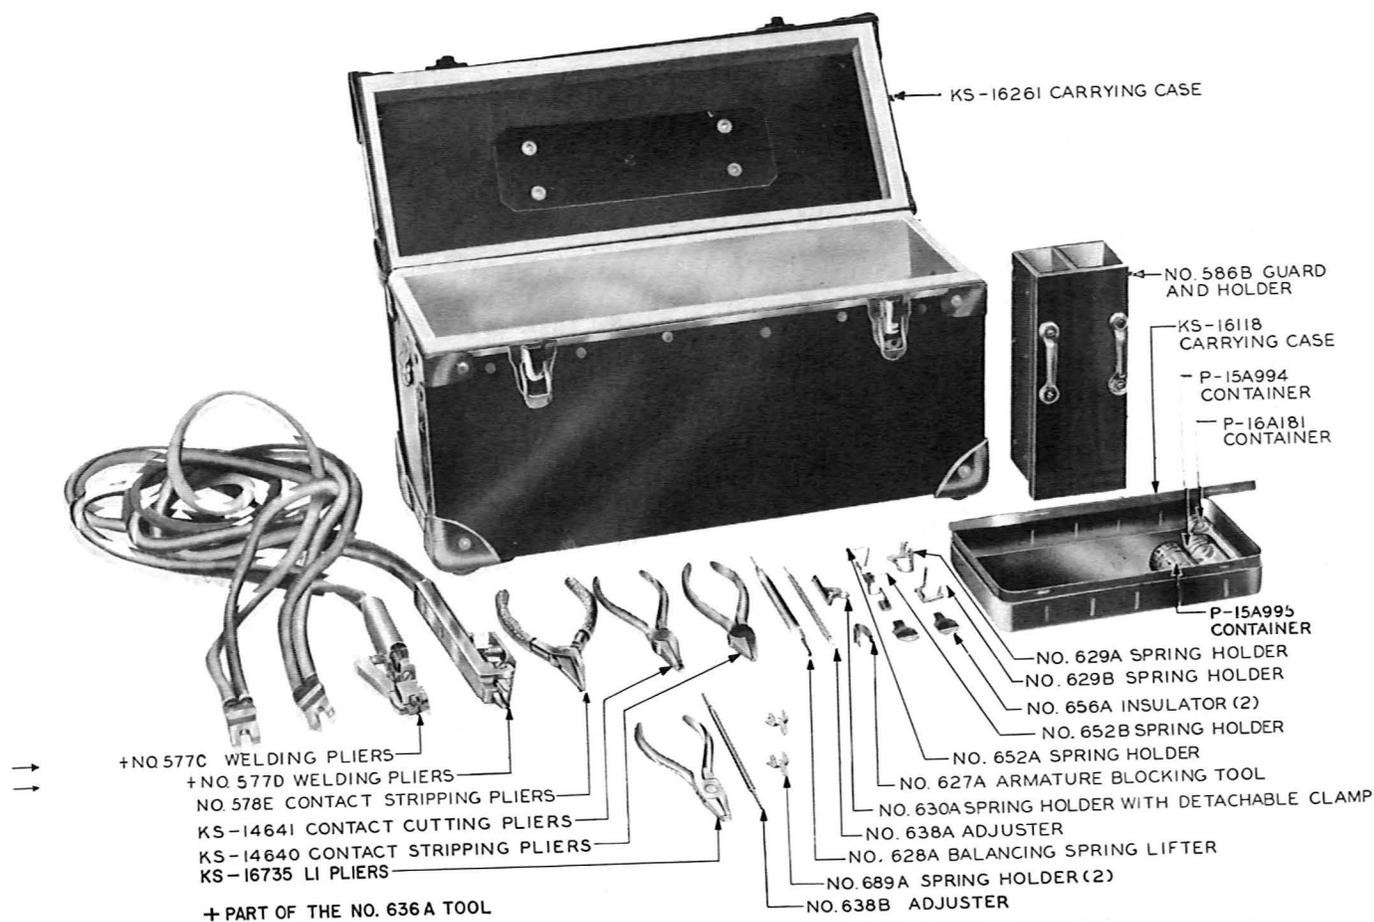

Fig. 4 — No. 1013A Tool Kit
No. 1013A Tool Kit (Fig. 4)
2.11 The No. 1013A tool kit shown in Fig. 4 is used in conjunction with the No. 1004B tool kit for replacing contacts on wire-spring-type relays. The No. 1013A tool kit consists of the items listed below. The use of a number of these items is described briefly following the listing of the item or in the paragraph noted after the listing.